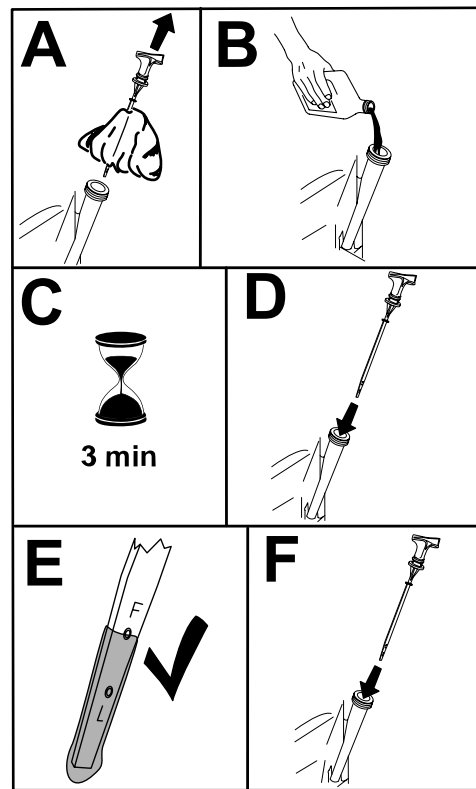

Figure 27
5. Slowly pour approximately 80% of the specified oil into the filler tube (Figure 27).